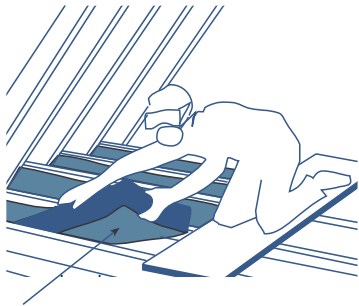
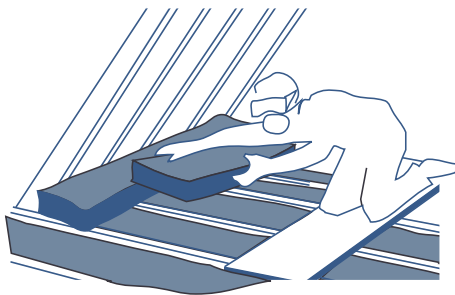

Figure 8: Begin laying insulation at the outer edge of the attic.
Figure 9: Insulation may be layered over and at right angles to the joists.
is added, follow the instructions described in (Figure 8 and Figure 9). If it's wet, it must be thrown away.
- Begin laying insulation at the outer edge of the attic and work toward the center, placing the insulation between ceiling joists (Figure 8).
- If adding more than one layer, place the second layer over and at right angles to the first layer (Figure 9).